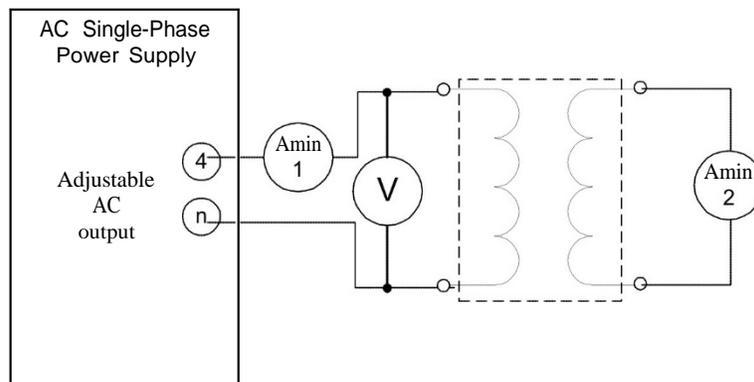

FIGURE 4.12
This test is an AC test in which a small AC voltage is applied to the primary winding while primary and secondary are connected as shown in Figure 4.12. If the voltage across the non-connected winding terminals is greater than the applied voltage then the transformer polarity is additive and therefore the jumper wire is connecting different polarity winding terminals. If the voltage across those terminals is less than the input voltage, the polarity is then subtractive and therefore the jumper wire is connecting identical polarity winding terminals.
The set up of the short-circuit test is shown in Figure 4.12. As we can see, the short-circuit is done using an AC ammeter which when placed across any pair of terminal creates a short-circuit between them because of its low internal impedance. This test **MUST be performed quickly** and at very low voltage values since the transformer secondary winding can be burned. The applied test voltage should be approximated prior to performing the test using the DC resistance of the winding and the rated current, so:
- 4) A short-circuit test was done over the transformer in Figure 4.12. If $V_s = 20 \text{ V}$, determine:
- Use phasor analysis and the transformer model of Figure 4.12 to determine what is the voltage regulation of this transformer.
- Step 2: Connect the alternating voltage circuit shown in Figure 4.12, first for the case 120/208 volts and later for the 120/120 volts case. Use the adjustable AC output of the power supply as your power source. (DO NOT turn on the power supply yet).
- Step 1: Connect the circuit shown in Figure 4.12. The terminals short-circuited are terminals 1 and 2, and the adjusted AC output of the power supply connected to terminals 3 and 4.